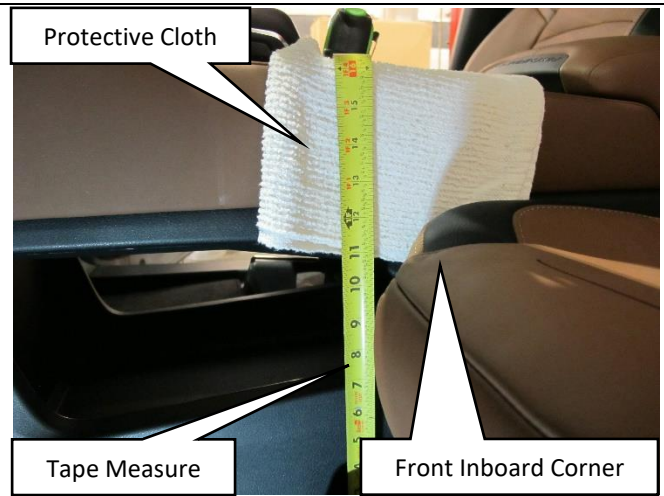

Figure 4
3. Place a tape measure between the center console and the front inboard corner of the driver seat (Figures 4 and 5).